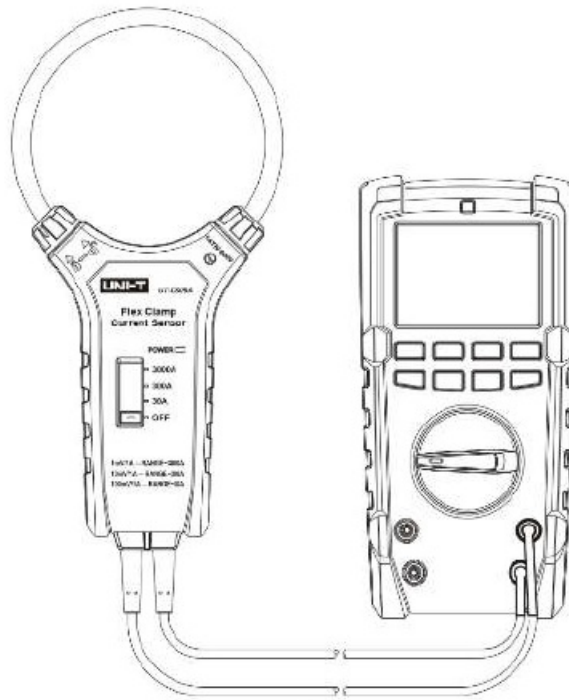

Figure 2
1. Connect the sensor with an alternating voltage measure device e.g. multimeter. (see figure 2)